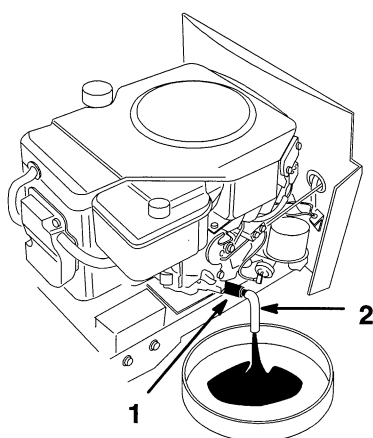

Figure 19
5. Place a pan below the oil drain. Open the drain by turning counterclockwise, 1/8 turn and pull out (Fig. 19).